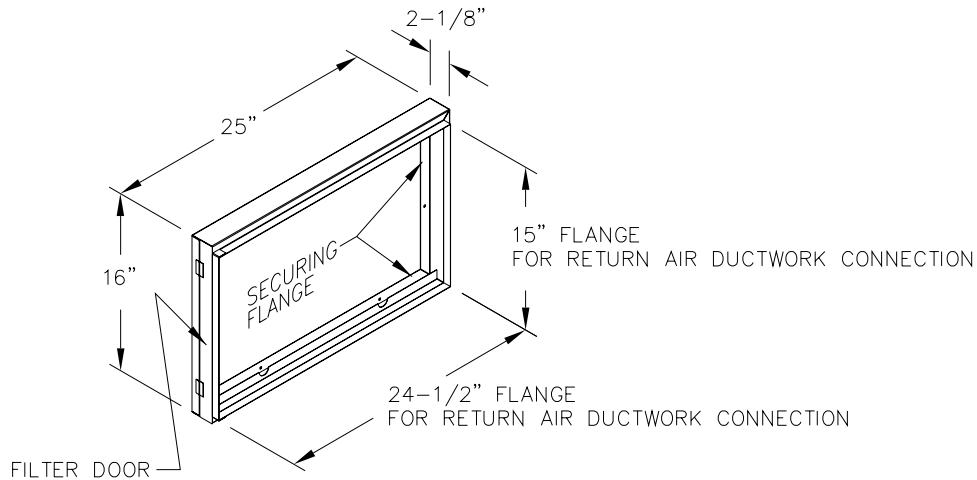

Fig. 5: A typical filter rack and dimensions for the OH6FA072D* furnace.**
The filter rack provided with the furnace, refer to Fig. 5, will serve as a template to scribe a mark for the return air opening on the casing. Place the filter rack on a side casing approximately one inch up from the bottom of the furnace and centered from side to side. Place the securing flange against the casing when locating the return air opening. For your convenience, (4) locator knock-outs have been placed at the proper locations on both the left and right side casings.
Connect the return air plenum to the filter rack and slide the filter into place. Dimensions for adapting the return air plenum to the filter rack are provided (See Fig. 5).